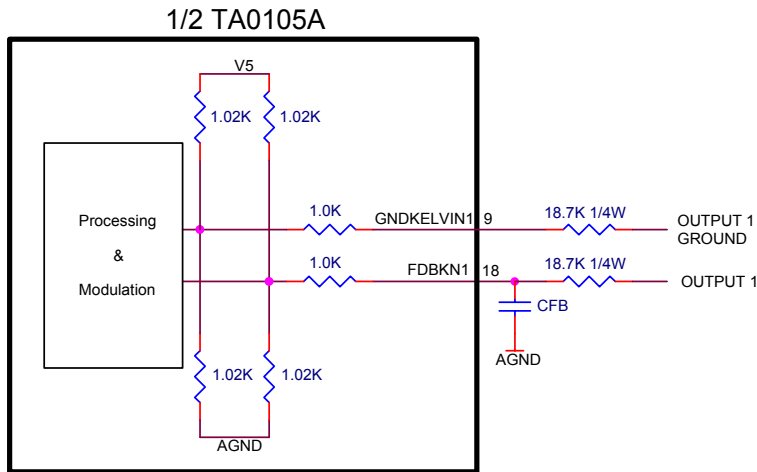

Figure 7: Feedback Structure for TA0104A Emulation
- Change the feedback resistors, R_{FB} , to 18.7K, 1/4W. This requires a total of four resistors (2 per channel) as both the FDBKNx and GNDKELVINx nodes need to have the series resistors inserted. This scales the amplifier feedback properly for the TA0104A supply range and results in the same gain as a standard TA0104A design. The resulting gain equation is as follows. The modifications needed for channel 1 are shown in Figure 7.